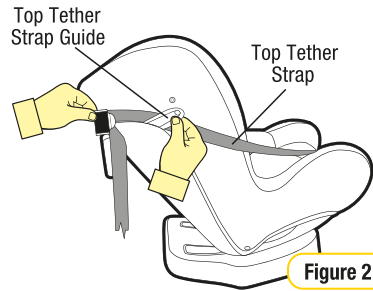

Figure 2
- Step 2:** Continue to extend until the adjuster has reached the desired location at the side of the restraint (refer Figure 2).